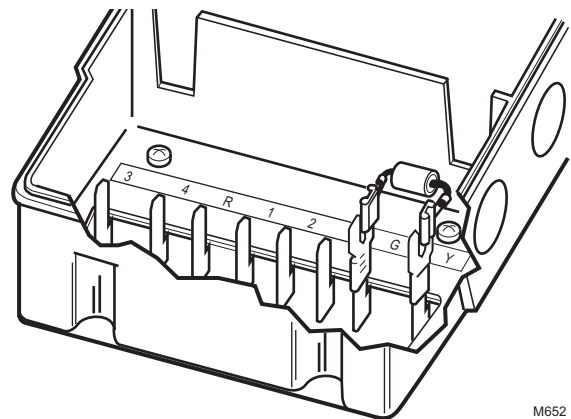

Fig. 13. Attaching a shunt resistor to TRADELINE motors.
- Slaving a Series 90 Motor requires full-stroke feedback resistance of 142 ohms. Select and attach the proper shunt resistor across terminals Y and G (see Table 2 and Fig. 13).